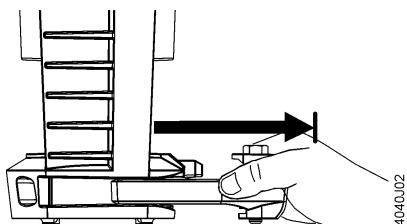

Figure 4.
2. Open the bonnet connection U-bracket. See Figure 4.